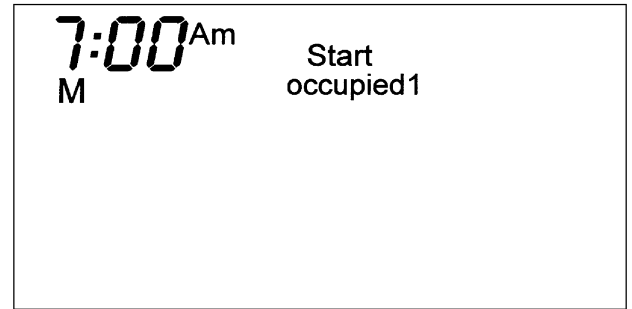

Fig. 6 — Start Time Display
- The Start Time for Occupied 1 will be displayed. Use the UP ARROW and DOWN ARROW buttons to raise or lower the time until the desired Start Time is shown. Press the Mode button to continue. See Fig. 6.